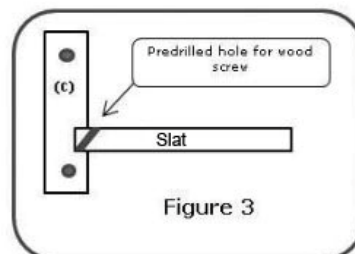

Figure 3
7. Slats (D) slide into groove of bed rails and must be secured using 1-1/2" screws (F) through pre-drilled holes, refer to **Figure 3**. Begin by positioning a slat in the centre and screwing one end inside the groove. From the opposite side of the secured slat pull slat towards you while pushing second bed rail to secure second end of centre slat while fully inside groove. Once the centre slat is secured at both ends position the remaining eight slats equally with no spaces greater than 3-1/2" and screw into place.